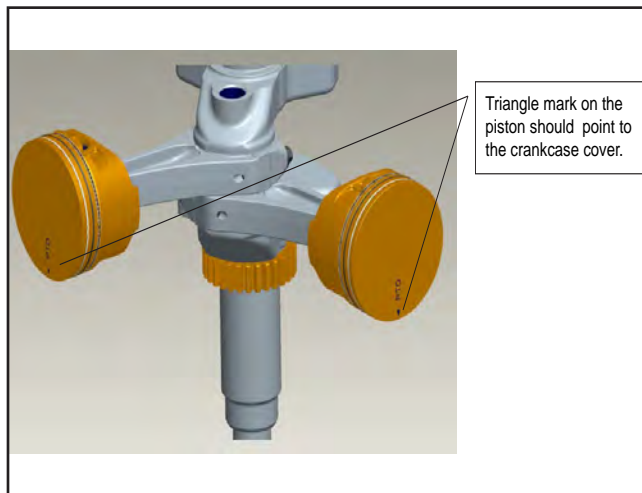

Figure 11
**NOTE:** When the rods are properly assembled to the crank the tapers will be to the upper and lower crank thrust sides and both piston dome stamps point to the PTO end of crankshaft (Figure 11).